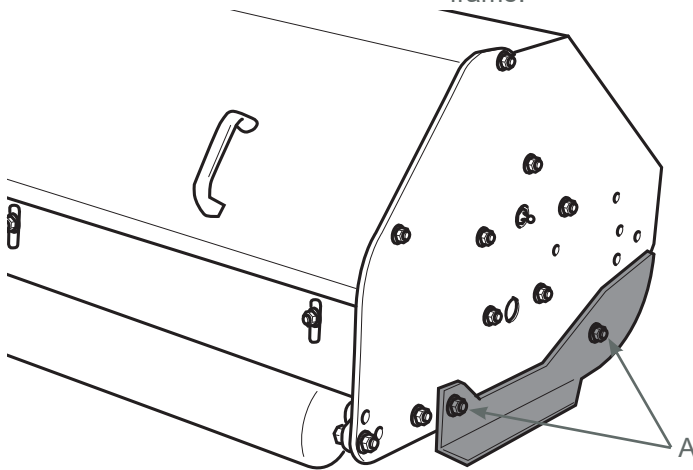

Fig. 27
Thanks to the presence of a particular anchoring system and the installation of a specific hinge (A), the MA shredder can easily continue its path even in the presence of obstacles and protrusions on the ground and allows maintaining of its stability even in the event of uneven ground (Fig. 27).
- 1) Remove the fixing screws "A" of the skids (Fig. 27).